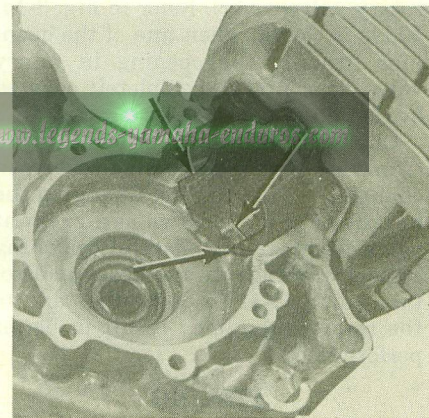

Fig. 3-11—The cylinder should match with crankcase openings. Arrows indicate locations of possible misalignment.
lowed. If the transfer ports and passages are reshaped; be sure that they are all alike and correct. The angle (A—Fig. 3-8) of the inlet passage and port (TA) determines the direction of the fuel-air charge entering the cylinder; if incorrect, fuel will be wasted and the cylinder will not be cleared of old gases. The transfer passage in crankcase, gasket, cylinder, and sometimes piston skirt, should be matched to provide smooth, nonrestrictive flow. Refer to Fig. 3-11.